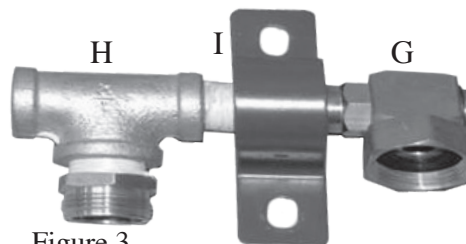

Figure 3
- Insert the Brass Swivel (G) through the U-Bushing (I).
- Screw the end of the Brass Swivel into the Galvanized Tee (H) as seen in figure 3.